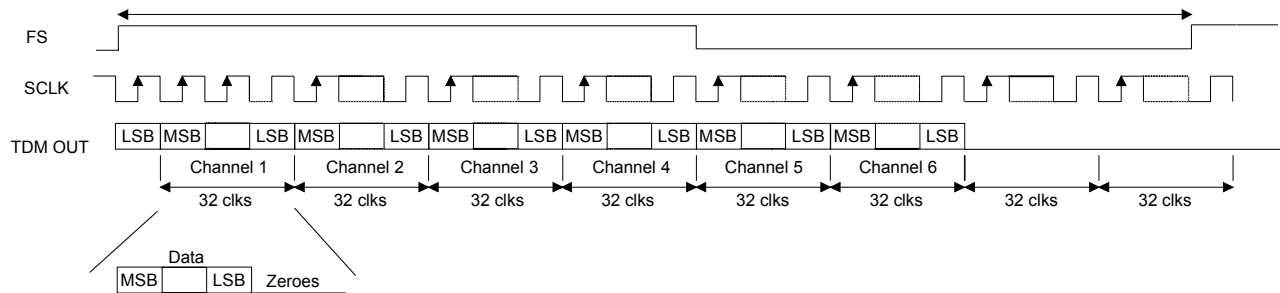

Figure 12. TDM Format
In TDM Mode, all six channels of audio data are serially clocked out during a single Frame Sync (FS) cycle, as shown in Figure 12. The rising edge of FS signifies the start of a new TDM frame cycle. Each channel slot occupies 32 SCLK cycles, with the data left justified and with MSB first. TDM output data should be latched on the rising edge of SCLK within time specified under ‘Serial Audio Interface - TDM Timing’ section on page 16. The TDM data output port resides on the SDOOUT1 pin. The TDM output pin is complimentary TDM data. All SDOOUT pins will remain active during TDM Mode. Refer to Section 4.11 “Optimizing Performance in TDM Mode” on page 29 for critical system design information.